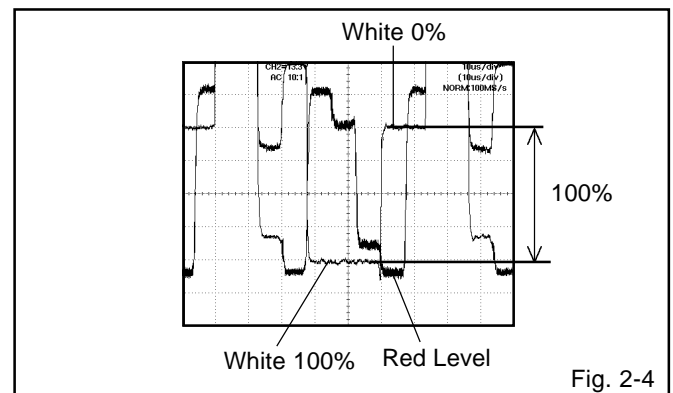

Fig. 2-4
6. Press the RIGHT/LEFT button on the remote control until the red color level is adjusted to $110 \pm 10\%$ of the white level. (Refer to Fig. 2-4)
12. Press the RIGHT/LEFT button on the remote control until the red color level is adjusted to $110 \pm 10\%$ of the white level. (Refer to Fig. 2-4)